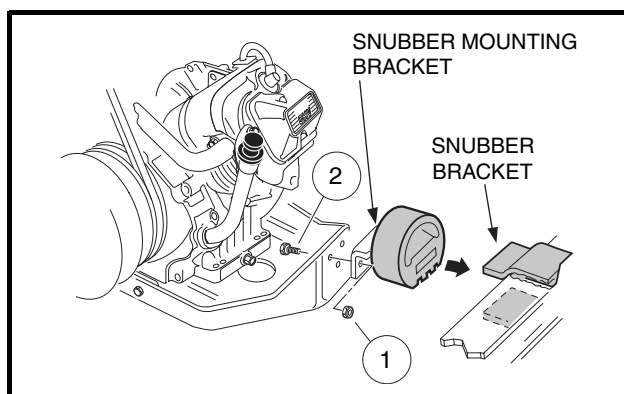

Figure 9-4 Snubber Brackets
2. Working from above, remove the two bolts (2) and two locknuts (1) securing the snubber bracket to the engine mounting plate (Figure 9-4, Page 9-4).
2. Tighten snubber bracket mounting nuts (1) to 13 ft-lb (17.6 N·m) (Figure 9-4, Page 9-4).